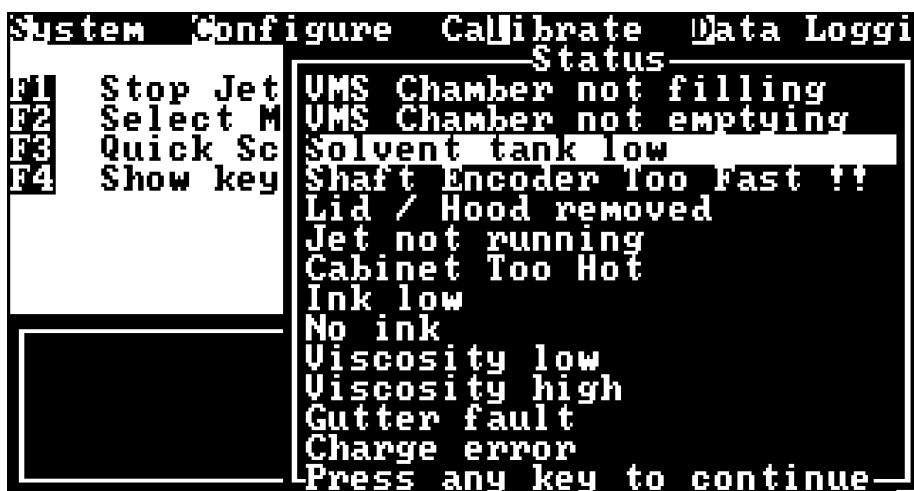

Fig 11.87 Printer faults list
- 159** When the **S**tatus option is selected the printer status list is displayed (Fig 11.87). The list contains the possible printer faults, with current faults highlighted.